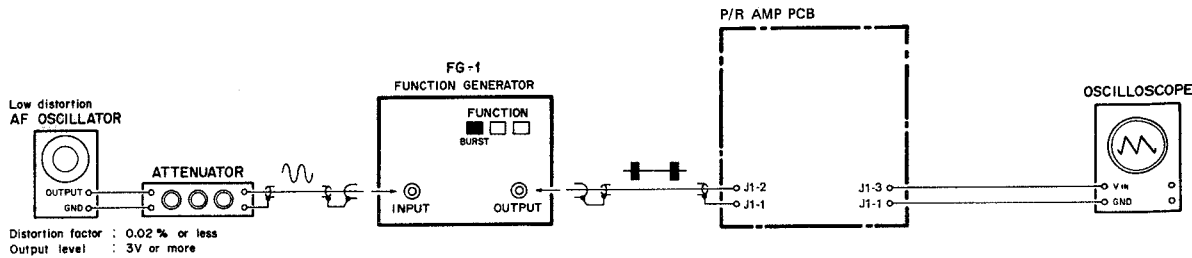

FIG. 32. RELEASE RATE ADJUSTMENT
E. Release Rate Check (Connections: Fig. 32)